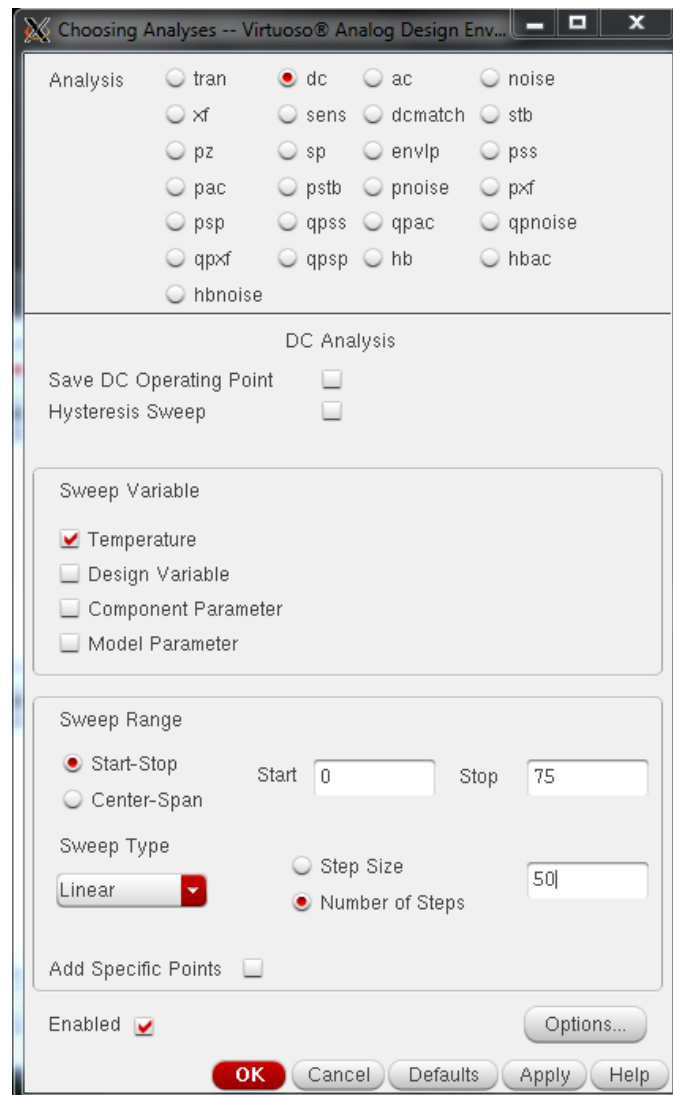

Figure 8: Choosing analysis to be observed
2. The temperature sweep is under DC analysis so mark the "dc" option under Analysis. The variable that is going to be swept is temperature so mark the "Temperature" under Sweep Variable. Write 0 and 75 to "Start" and "Stop", respectively. Choose "Linear" as the Sweep Type and determine number of steps (e.g. 50). Click "OK". You have adjusted the sweep range of Temperature from 0 to 75 and the temperature is going to change linearly with totally 50 steps. Figure 8 shows analyses screen that you adjust these settings.